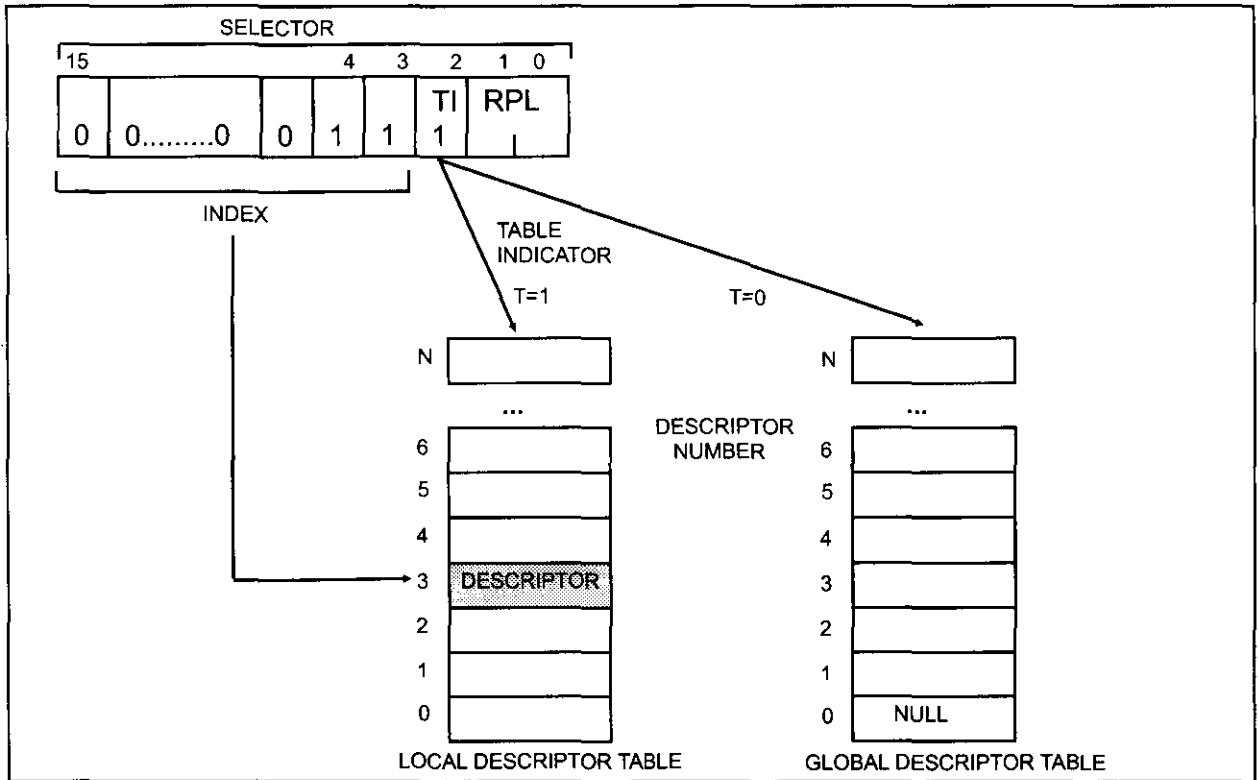

Figure 21-9. LDT and GDT Selection
There are two types of descriptor tables for the 386: the local descriptor table (LDT) and the global descriptor table (GDT). The GDT is used for the system, and individual tasks can have their own LDT. How do the segment registers know which one they are accessing? The third bit (TI) of the segment register (referred to as the selector) always indicates which table should be used. See Figure 21-9.
As seen in Figure 21-9, the 14 bits of the selector (segment) register can have 16,384 ( $2^{14}$ ) possible combinations. Each possible value can access a descriptor that can hold addresses of memory chunks as large as 4 gigabytes. Therefore, we have  $2^{14} \times 2^{32} = 64$  terabytes of virtual memory for the 386 (recall that *tera* is defined as  $2^{40}$ ). To put it another way: The 386 can access 64 terabytes of hard disk (virtual memory) as long as the virtual memory is broken down into 4 gigabyte pieces, since it has only 32 address pins. While the segment limit in the 8086/286 is 64K bytes, the segment limit in the 386 was raised to 4G. One of the drawbacks of 386 segmentation is its variable segment size, which leads to memory fragmentation. Another is the absence of what is called a *dirty bit* in the access byte of the descriptor table. Assume that there is some memory that can be written into. The accessed (A) bit indicates if the data has been accessed but does not indicate if any new data was written into it. Why should the operating system care if the memory is altered (written into)? If the data is altered, it is the job of the operating system to save it on the disk to make sure that the hard disk always has the latest data. If the dirty bit is zero ( $D=0$ ), it means that the data has not been altered and the operating system can abandon it when it needs room for new data (or code) since the original copy is on the hard disk. This will save time for the operating system. If the dirty bit is one ( $D=1$ ), the operating system must save the data before it is lost or abandoned. Both problems of variable segment size and lack of a dirty bit in segmentation are fixed in the paging method of virtual memory.